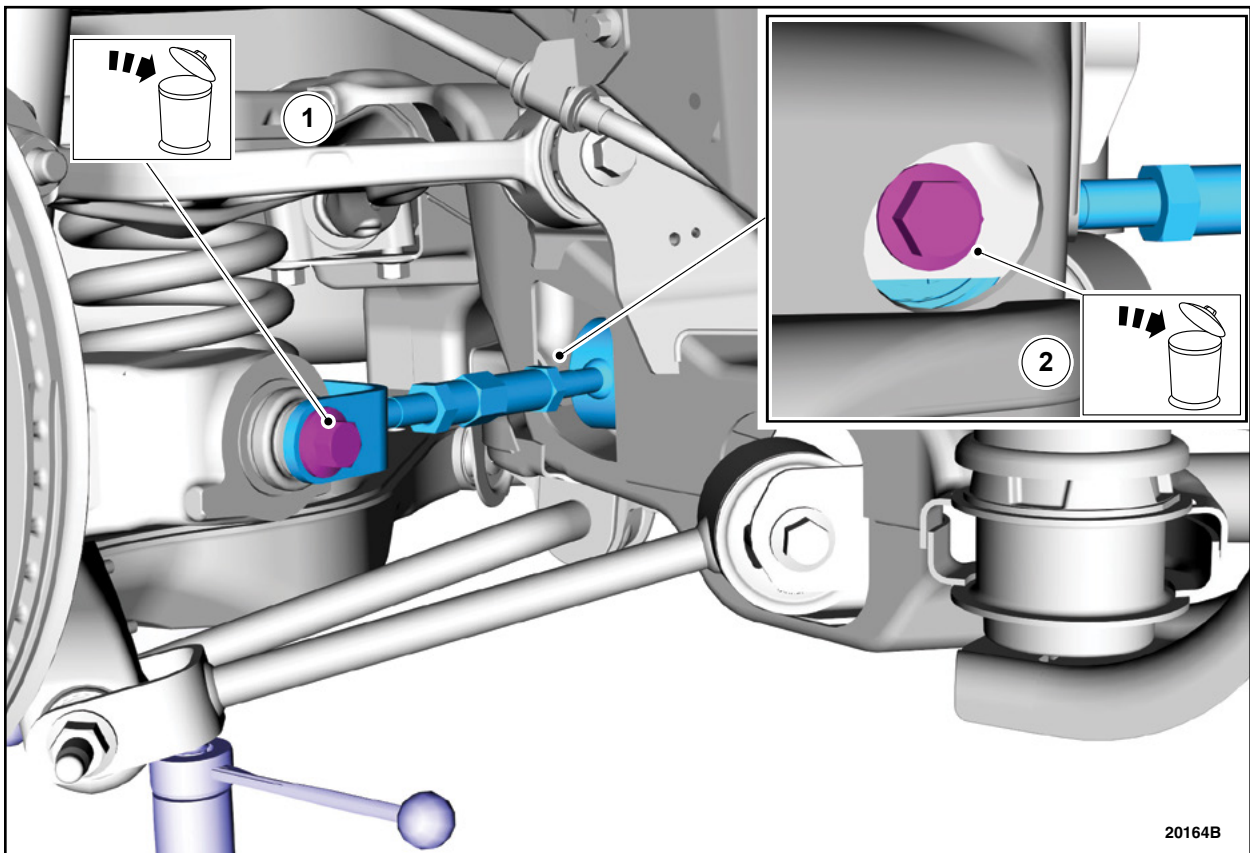

FIGURE 3
5. Remove and discard both rear toe links. See Figure 3.
5. Install the new toe links by reversing the removal procedure. See Figure 3.